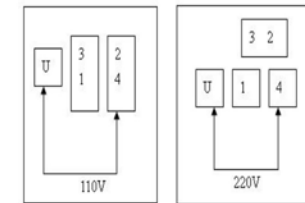

Fig.2
- (1) Refer to Fig. 2 for correct wiring it is important that wining be correct and that motor is properly grounded.
- (2) Check the following points before tuning on operation switch